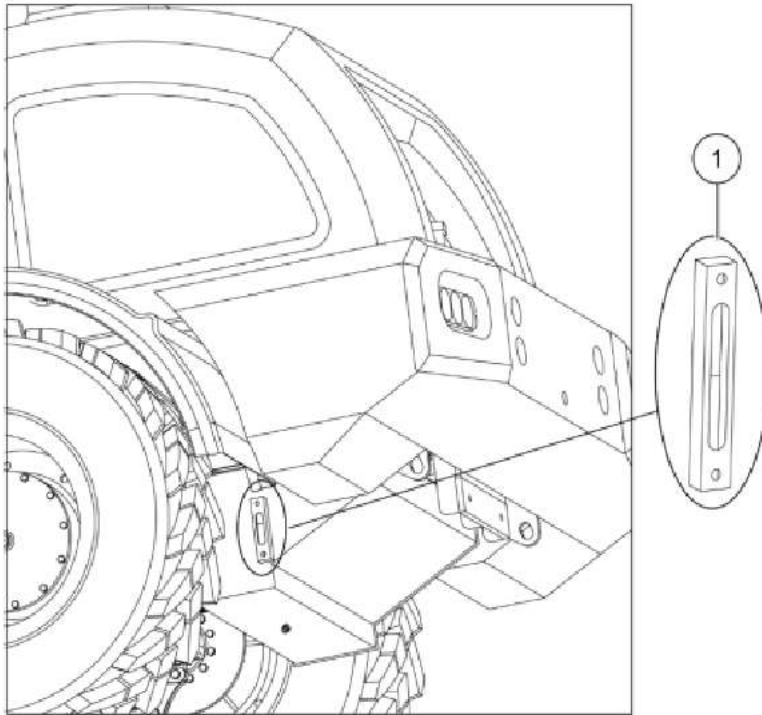

Figure 6-15 Hydraulic oil level gauge
Step 2: Check the hydraulic oil level from the oil level gauge (1). When the hydraulic oil is below the lower limit, add hydraulic oil from the oil tank filler port (2). The hydraulic oil should not exceed the upper limit, as shown in Figures 6-15 and 6-16;